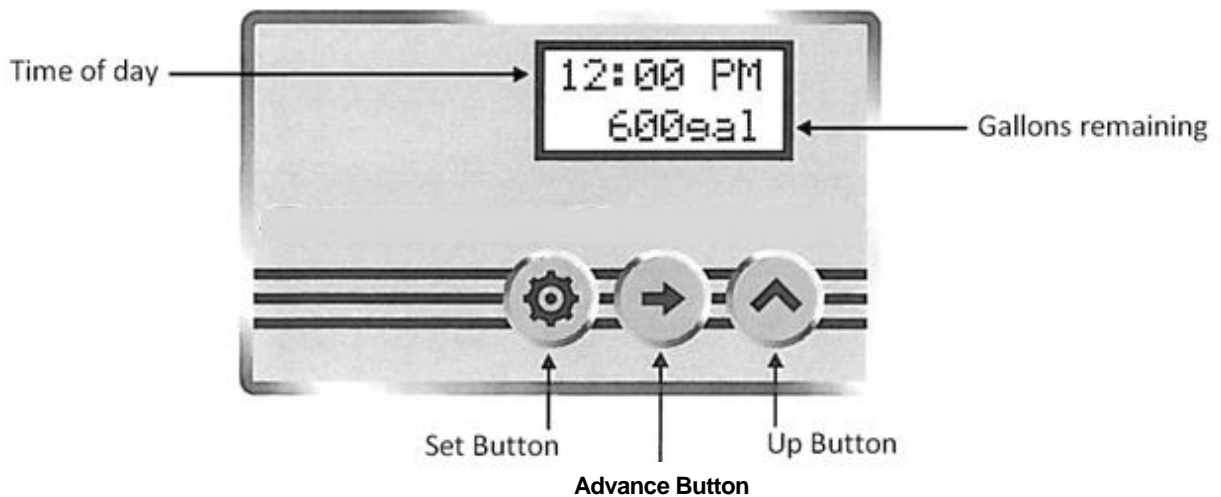

FIGURE 5: Front of Electronic Meter Timer Assembly
STEP 10: Plug the transformer into an un-switched electrical outlet and attach the power cord into the control valve. Then press and hold down the center "ADVANCE" button until "GO TO BW" appears on the screen (see Fig. 5, page 7). Wait until the valve reaches the backwash position (when the countdown timer starts) before unplugging power from the control valve to keep it in the backwash position.
- STEP 18:** Press and hold the “SET” button (left button) to set the current time of day (noting AM vs PM) using the “UP” button to increment the hours, minutes or AM/PM and using the “ADVANCE” button to shift between hours, minutes and AM/PM (refer to Fig. 5 on page 7).
- STEP 19:** Press the “SET” button to set the adjusted hardness of the water using the “UP” button to increment hardness up to 120 if required (refer to Fig. 5 on page 7).. NOTE: hardness will roll over to 1 after 120.
- STEP 20:** Press the “SET” button to return to the main display (refer to Fig. 5 on page 7).